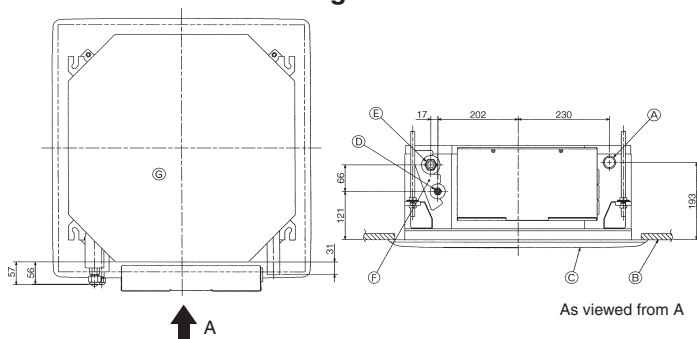

Fig. 5-8
5.3. Refrigerant and drainage piping locations (Fig.5-8)